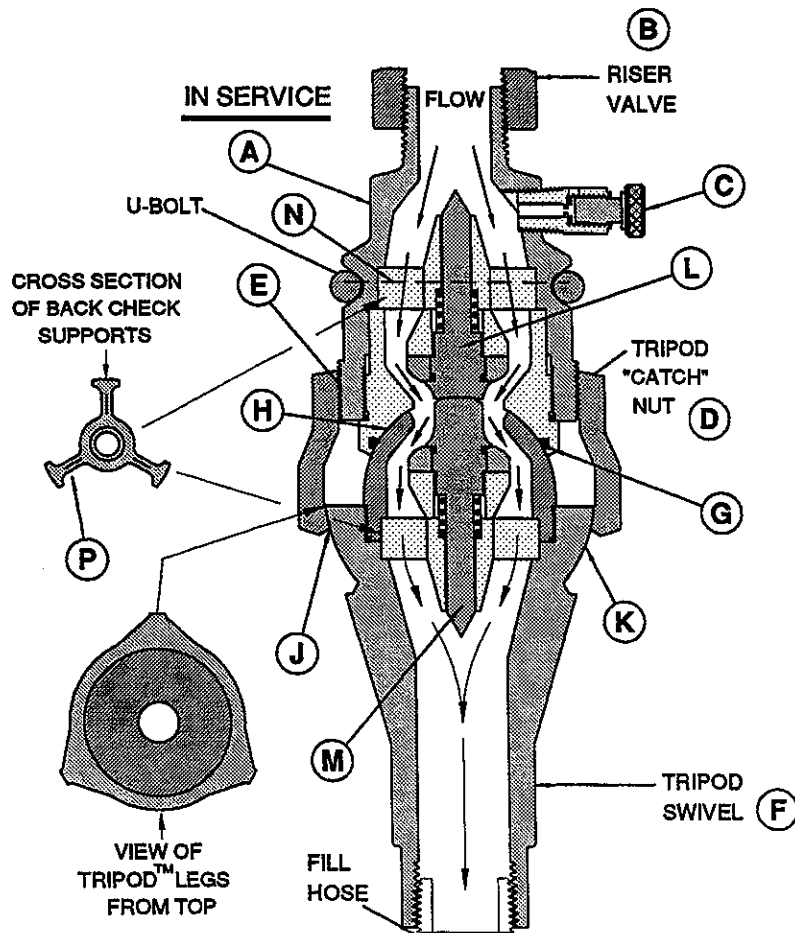

FIGURE 1
FIGURE 1 SHOWS A TYPICAL TRIPOD IN CROSS SECTION. THE TRIPOD HOUSING (A) IS TIGHTENED INTO THE RISER VALVE OUTLET (B). THE HOUSING HAS AN INTEGRAL BLEEDER (C) WHICH IS USED TO VENT TRAPPED LIQUID AFTER A PULL-AWAY. THE HOUSING IS THREADED AT (E) TO RECEIVE THE CATCH NUT (D) WHICH IS TIGHTENED IN A UPWARD DIRECTION TO TRAP THE TRIPOD SWIVEL ASSEMBLY (F) INTO SEALING ENGAGEMENT WITH THE HOUSING ASSEMBLY.